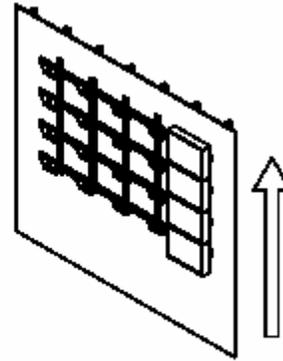

FIGURE 7
13. After mounting first display, repeat FSM mounting steps for display to be positioned directly above the first display (see Figure 7).